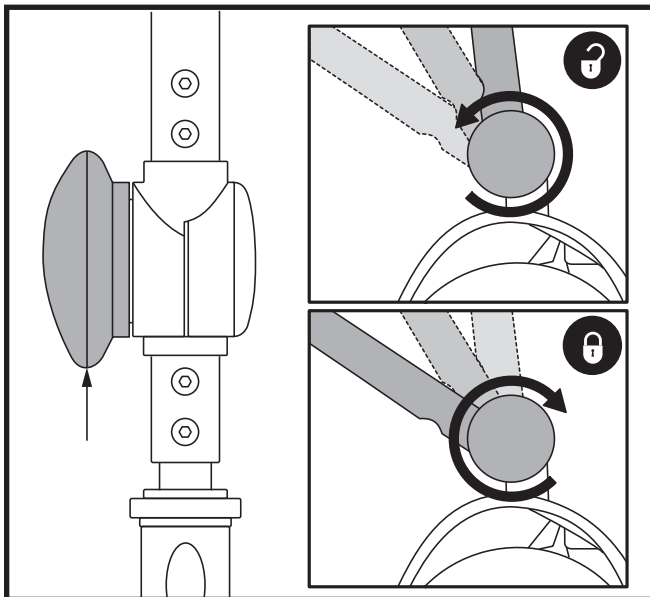

Figure 24. Tiller Adjustment Knob
TILLER ANGLE ADJUSTMENT (See figure 24)
1. With the seat and battery pack removed (see Disassembly Procedures on previous page), lower the tiller and tighten the tiller adjustment knob. See figure 24.